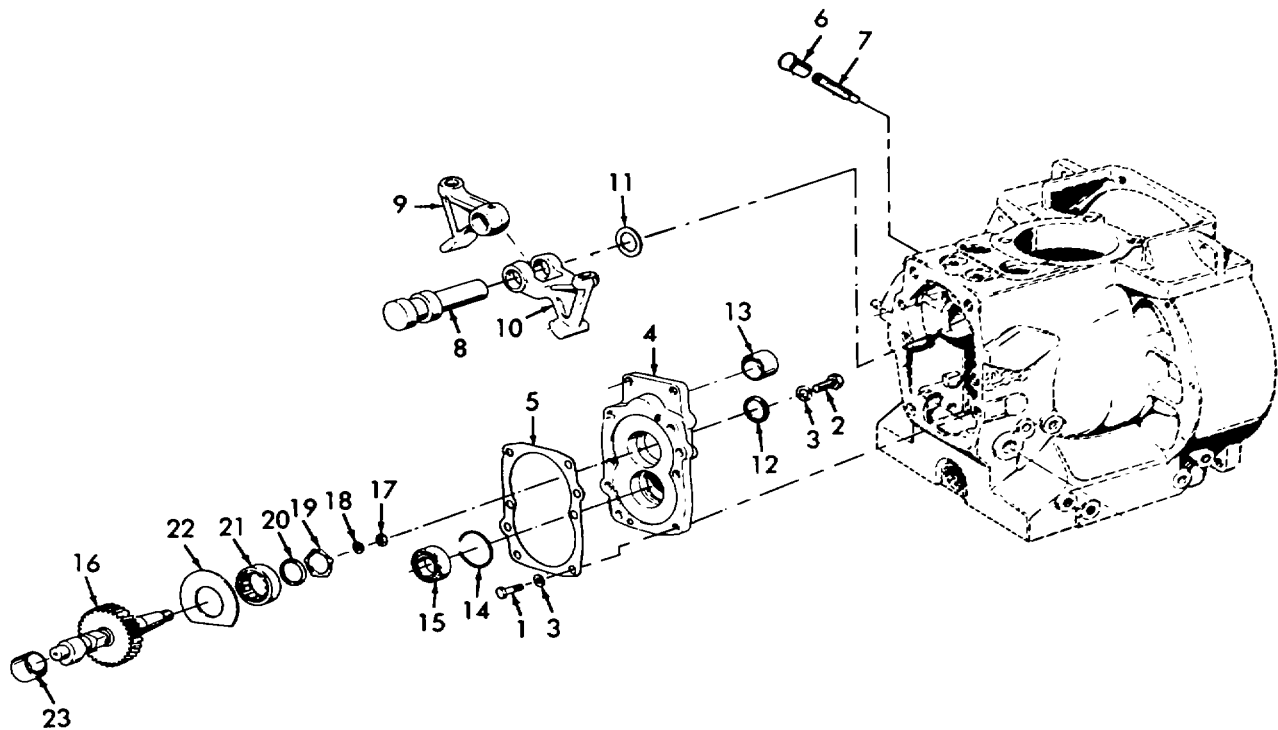

Figure 6-8. Timing Cover and Camshaft Reassembly.
- (1) Inspect timing cover for cracks or signs of wear. Replace a damaged timing cover.
- (2) Inspect camshaft for missing teeth on gear or scoring of camshaft lobes. Replace a damaged camshaft.
- (3) Inspect all bearings for scoring or pitting. Replace a damaged bearing.
- (4) Inspect camshaft bearing (22) for damage. If bearing (22) is damaged, remove by using a punch.
e. Repair. Repair is limited to replacing damaged parts.f. Reassembly. (Refer to figure 6-8).
- (1) Install a new bearing (23) using camshaft needle bearing mounting device.
- (2) Install spacer (22), roller bearing (21), flanged wheel (20), circlip (19), spring washer (18), and nut (17) on camshaft (16).